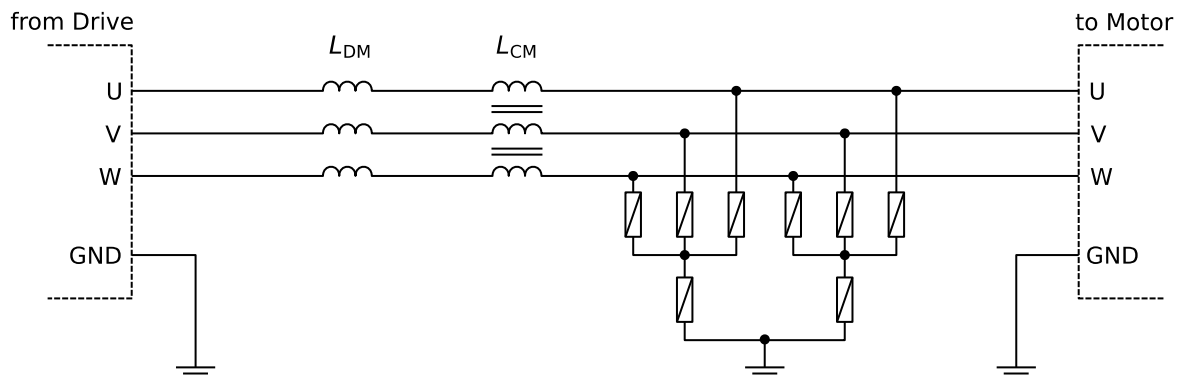

Figure 2: Technical design of the filter with differential-mode and common-mode filter stages.
Under normal circumstances, the common-mode voltage does not lead to a significant current flow. However, when adding a capacitive path towards ground, unwanted electrical discharges can occur. A typical example is a spindle that is machining a grounded metallic workpiece (see Figure 2). The electrical arcing can damage motor bearings, tools and workpieces through electro-erosion, reducing equipment lifespan and machine accuracy.
*Triamec Motion AG* motor-side filters are designed to eliminate common-mode voltage fluctuations. The filter consists of two filter stages, as illustrated in Figure 2. The common-mode filter attenuates the common-mode voltage, which prevents electrical arcing and suppresses EMI. The second stage is a differential-mode filter, which mitigates the voltage spikes caused by PWM switching. This reduces the current ripple, which lowers the stress on motor windings and improves the overall system performance.